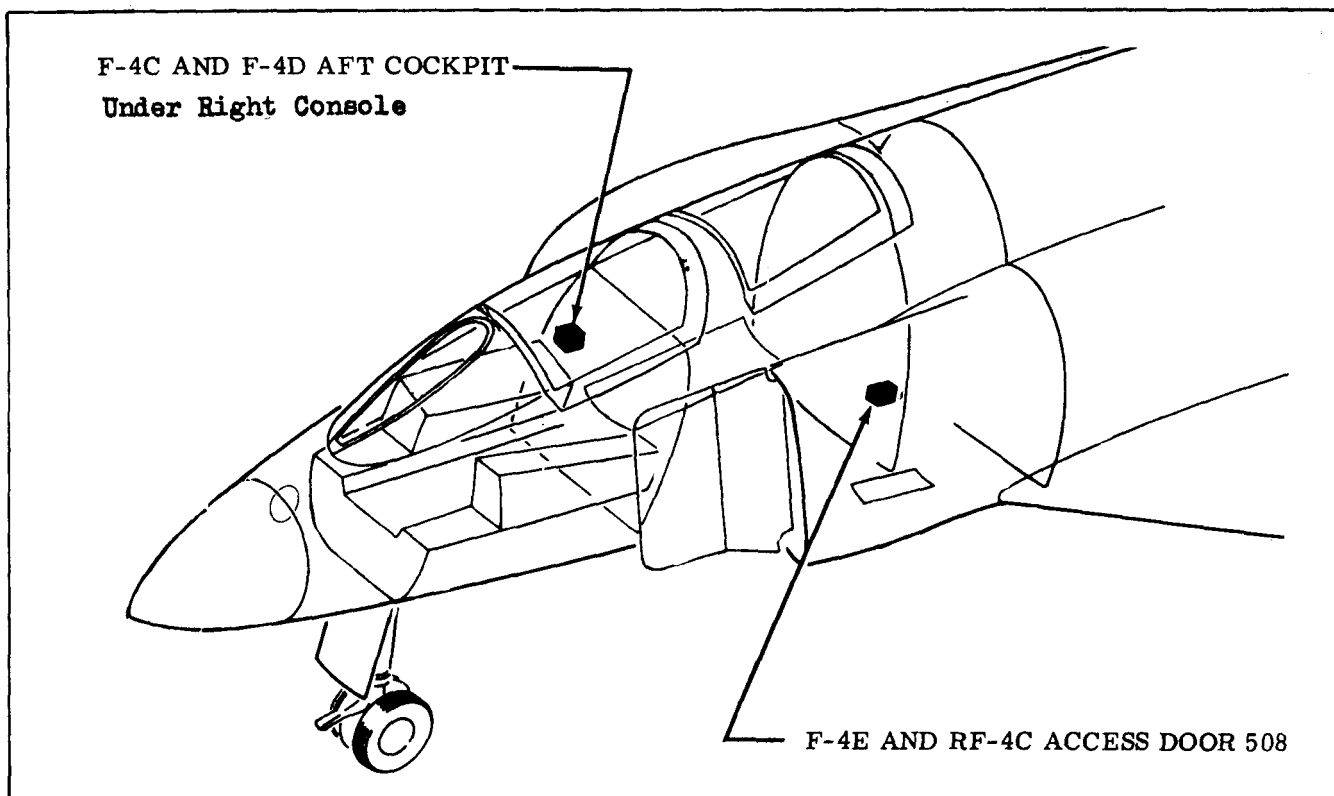

Figure 9-37. Battery Locations, RF-4C, F-4C/D/E
(1) The battery for the F-4C/D aircraft is located in the aft cockpit under the right hand console. Access is gained through the console cover. (see figure 9-37)
(2) The battery for the RF-4C/F-4E is located under the rear seat. Access is gained through panel 508 on the bottom center line of the aircraft. (see figure 9-37)
(3) If access can not be gained to the battery on an F-4 series aircraft, the left and right generator switches located on the forward right console may be used if desired.